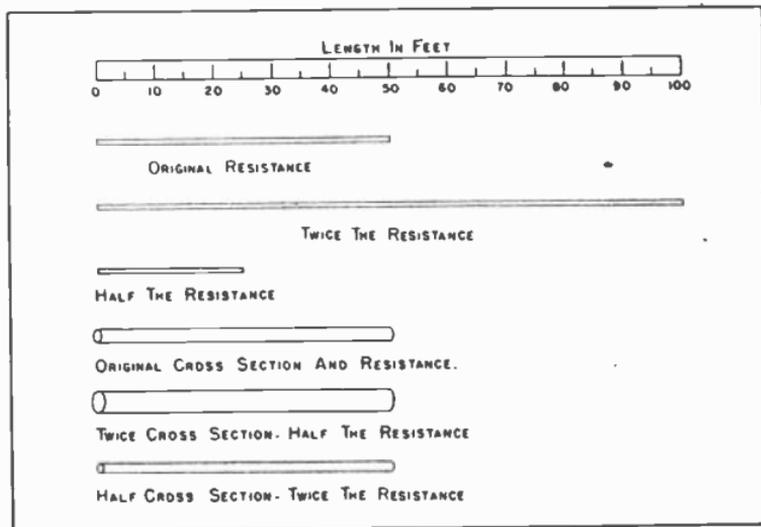

Fig. 21. Effect of Length and Cross Sectional Area On Resistance of Conductors.
length. See Fig. 21. Halving the length of the conductor will drop its resistance to half the origi-
3. The cross sectional area of the conductor. The cross sectional area is the area of the flat surface left on the end of a conductor when it is cut straight through from side to side. Changes of cross section in the same length of conductor are shown in Fig. 21. If the cross sectional area is doubled the resistance is cut in half. It is easier for electricity to flow through a large conductor, just as it is easier for water to flow through a larger pipe. If the cross sectional area is halved the resistance is doubled. It is harder to force water through a small pipe than a large one, and harder to force electricity through a small conductor than through a larger one.